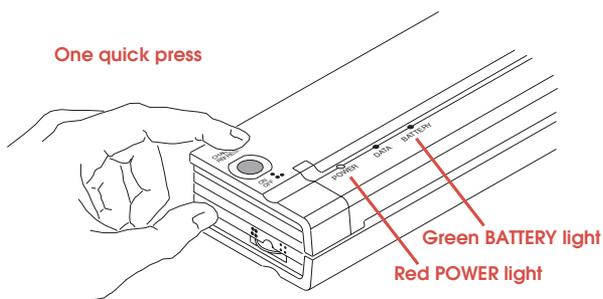

FIGURE 13. Turning on the printer.
- 2** Turn the printer on by pressing the main switch once quickly. The red POWER indicator lights up. (If you are using the battery, the green BATTERY indicator also lights up.) See *Figure 13*.